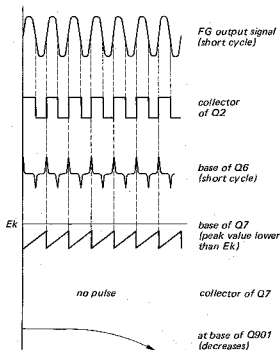

Fig. 11. When motor speed becomes faster
- 1) When motor speed becomes faster (Fig. 11);